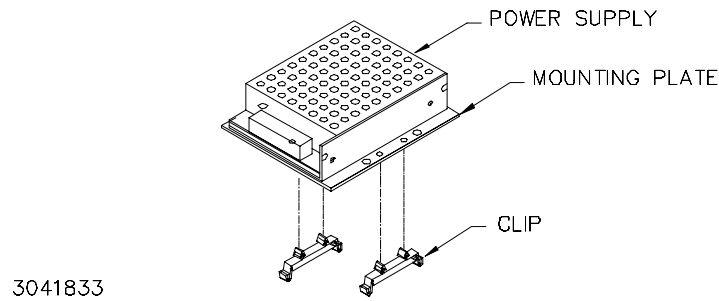

FIGURE 3. INSTALLING CLIPS ON MOUNTING PLATE
2. **INSTALL CLIPS.** Snap the two clips into the mounting plate holes (see Figure 3).